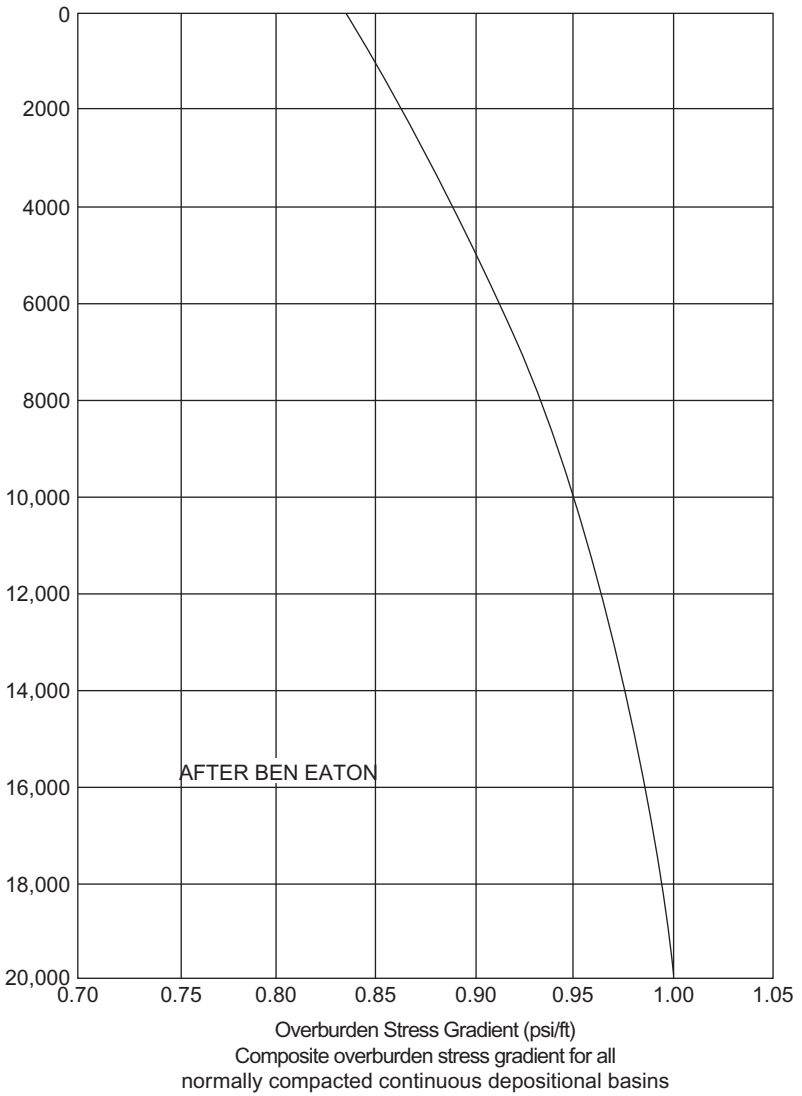

Figure 3.5 Eaton's overburden stress chart.
1. Obtain overburden gradient from "overburden stress gradient chart (From Figure 3.5)."
From Figure 3.5: Enter chart at 6000 ft. on left; intersect curved line and read overburden gradient at bottom of chart: